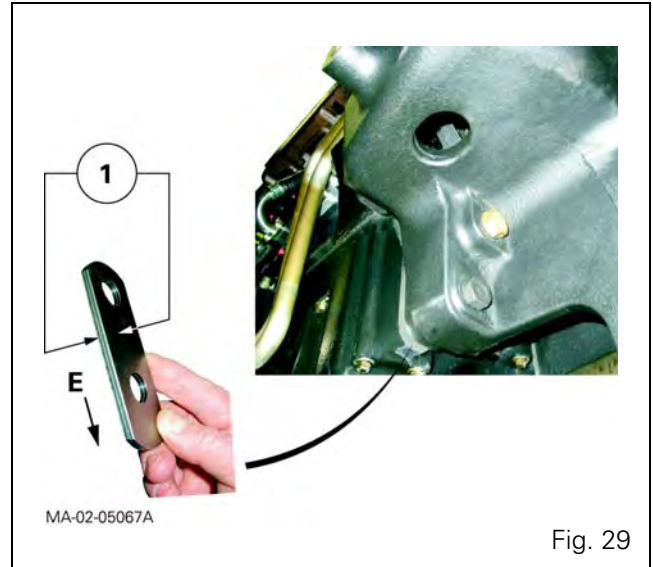

Fig. 29
55. Using two stacked shims (1), each at least 2.30 mm thick (Fig. 29), measure the gap between the faces of the engine/lower housing and front frame.
57. Turn the shims (1) so that end "E" faces downwards. Insert them between the front frame and the engine/lower housing (Fig. 29).